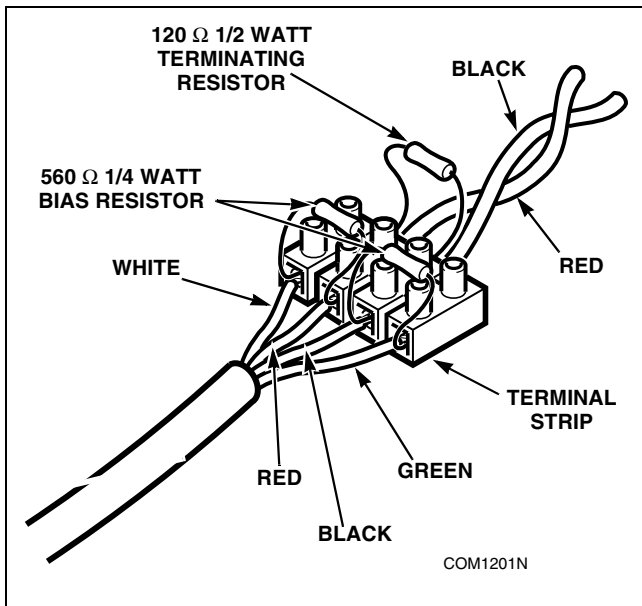

Figure 3
4. Place a 120  $\Omega$  1/2 Watt terminating resistor and 2 560  $\Omega$  1/4 Watt bias resistors into the terminal strip. Refer to *Figure 3*.
5. Run the wires of the network cable into the different circuits of the terminal strip and hold them in place while tightening the screws on top of the strip. Refer to *Figure 3*.
7. Place the black and red twisted pair wire into the terminal strip and hold the wires in place while tightening the screw on top of the terminal strip (connect black wire to black wire and red wire to red wire). Refer to *Figure 3*.